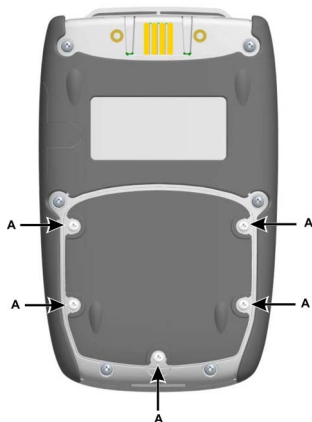

Figure 1: Rear View
1. Remove the five Pozidriv screws (A) (Ref: Fig 1, Rear View).